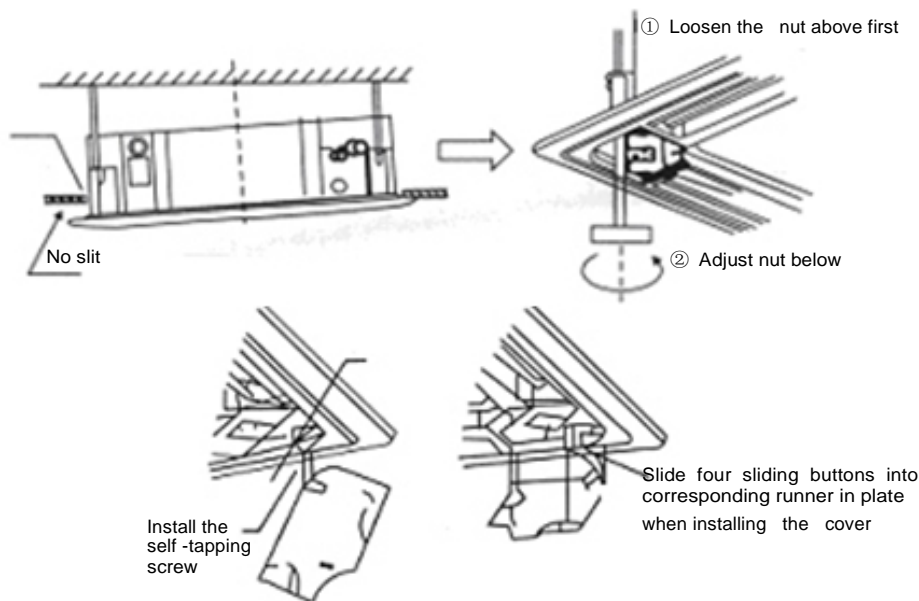

Fig 2.3 : Readjustment of installation height of the indoor unit
6) After screwing bolts, if there are also slits between ceiling and panel, you must readjust the height of indoor unit (refer to the above figure of Fig 2.3); If the position of indoor units and drain duct can be adjusted freely, you can adjust the height of indoor unit through the opening at the corner of the panel.
- ① Hang the air inlet grille to the panel first, then connect the down-lead tie-in of the motor and control box at the panel to the corresponding tie-in of main body.
- ② Install air inlet grille again according the opposite steps on taking out of air inlet grille. ③
- Fix the installation board rope to the pin of installation board (refer to the other of Fig 2.3);